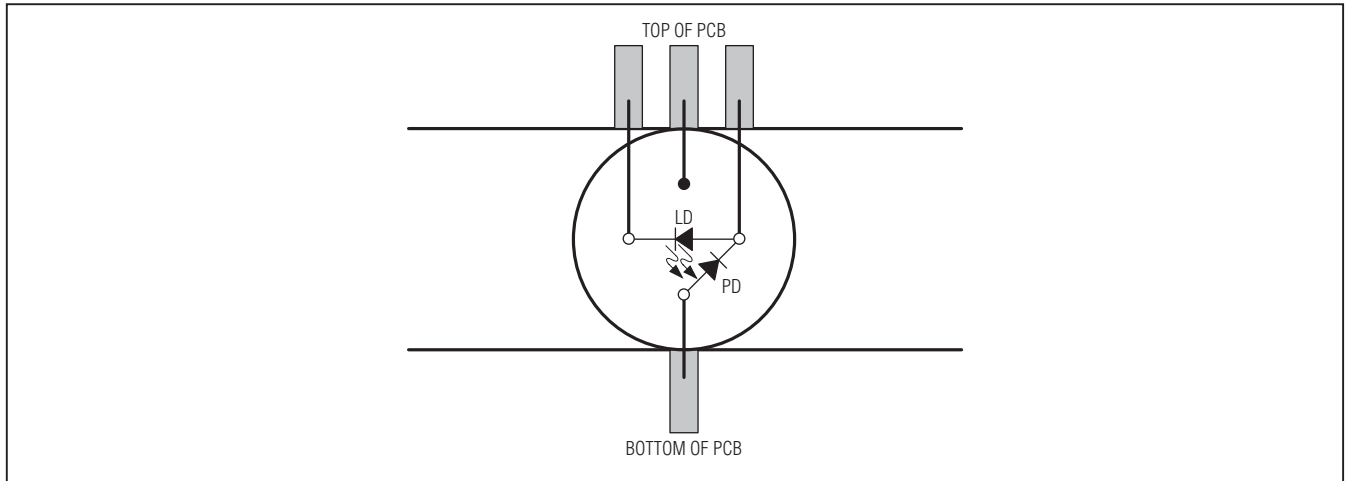

Figure 1. Laser Attachment
- 7) Solder a laser to edge connection D5. See Figure 1 for a view of how the laser should be mounted on the EV kit. Be sure to keep the laser leads as short as possible to minimize parasitic inductance.